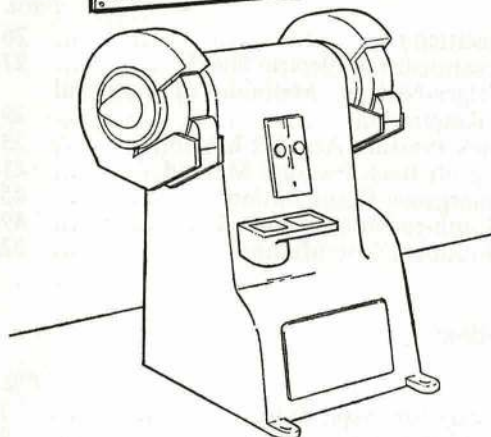

Fig. 1. SPECIAL RISK SIGN
2. A list of general safety precautions is displayed on the shop notice board and attention should be drawn to any special risks by means of suitable notices placed near the danger points (Fig. 1). Although some precautions may appear to be elementary, it should always be borne in mind that many accidents are the result of over-confidence. It is a human failing that familiarity tends to encourage the taking of risks; a machine shop is no place for carelessness.